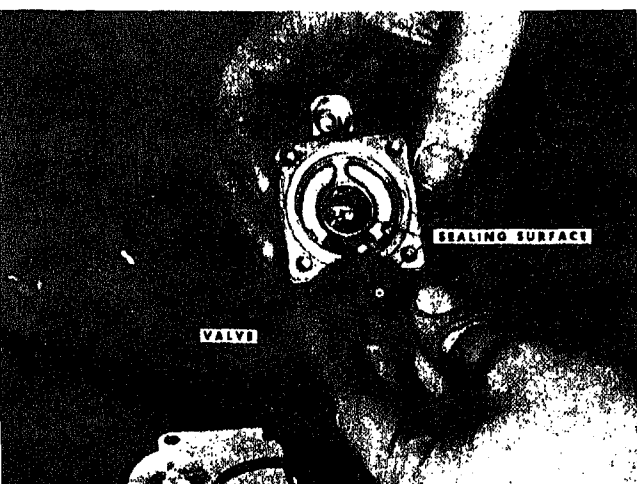

Fig. 505-3 Inspecting "plate type" valve
2. Visually check valve and valve seat for wear, bonding failure or corrosion. Replace if necessary. Valve seat should have a minimum seat 0.015 inch wide. Fig. 505-3.